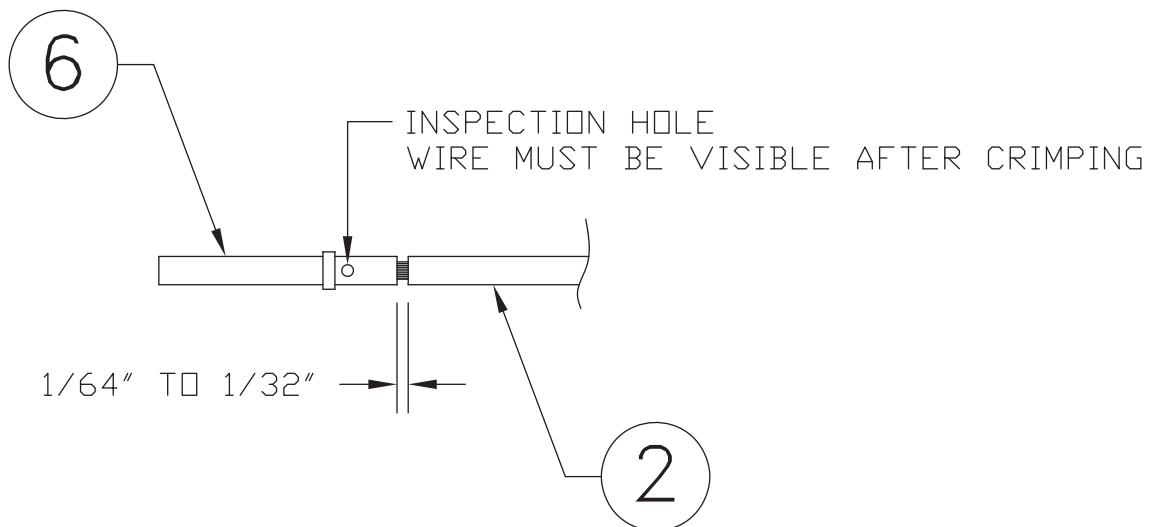

Figure 6-4 Insulation/Contact Clearance
- Strip back approximately 0.17 inch of insulation from each wire of the shielded cable (item 2, Figure 6-4) and crimp a contact (item 6, Figure 6-4) to each conductor. It is the responsibility of the installer to find the proper length of insulation to be removed. The wire must be visible in the inspection hole after crimping and the insulation must be 1/64 – 1/32 of an inch from the end of the contact as shown in Figure 6-4.
2. Strip back approximately 0.17 inch of insulation and crimp a contact to the 4-inch length of wire. It is the responsibility of the installer to find the proper length of insulation to be removed. The wire must be visible in the inspection hole after crimping and the insulation must be 1/64 – 1/32 of an inch from the end of the contact as shown in Figure 6-4.